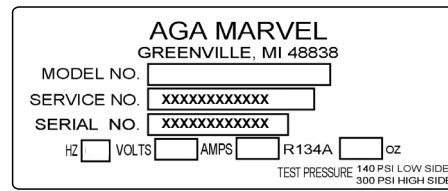

Figure 1
- The service number and serial number can be found on the serial plate located on the inside of the cabinet on the left side (See Figure 1).